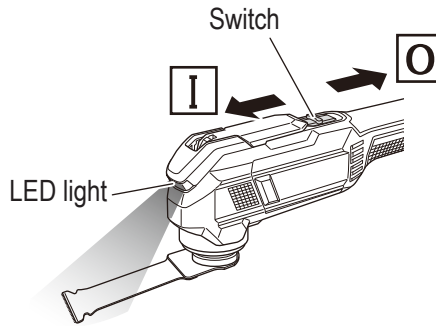

Fig. 12
Sliding the switch towards **I** will switch on, simultaneously activating the LED light which will light the application tool. (Fig. 12)
- (1) Switch the unit on and use the dial to set the speed of the application tool. (**Fig. 12 and 13**)